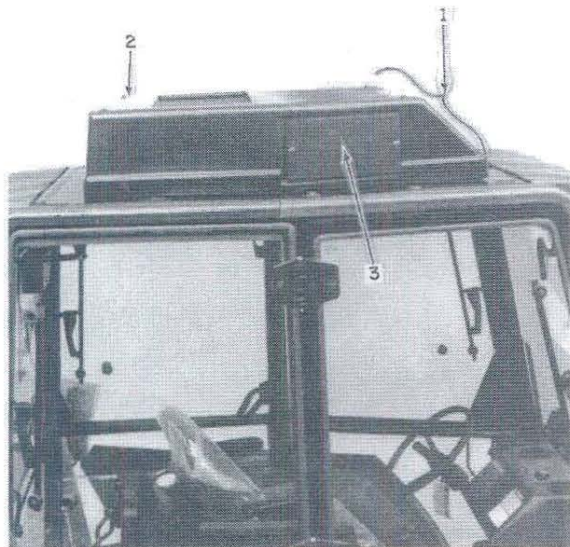

FIGURE 9-32
These components are located in the air conditioning unit mounted on the roof. Figure 9-32.
3. Remove the air conditioning pod cover, Figure 9-32.